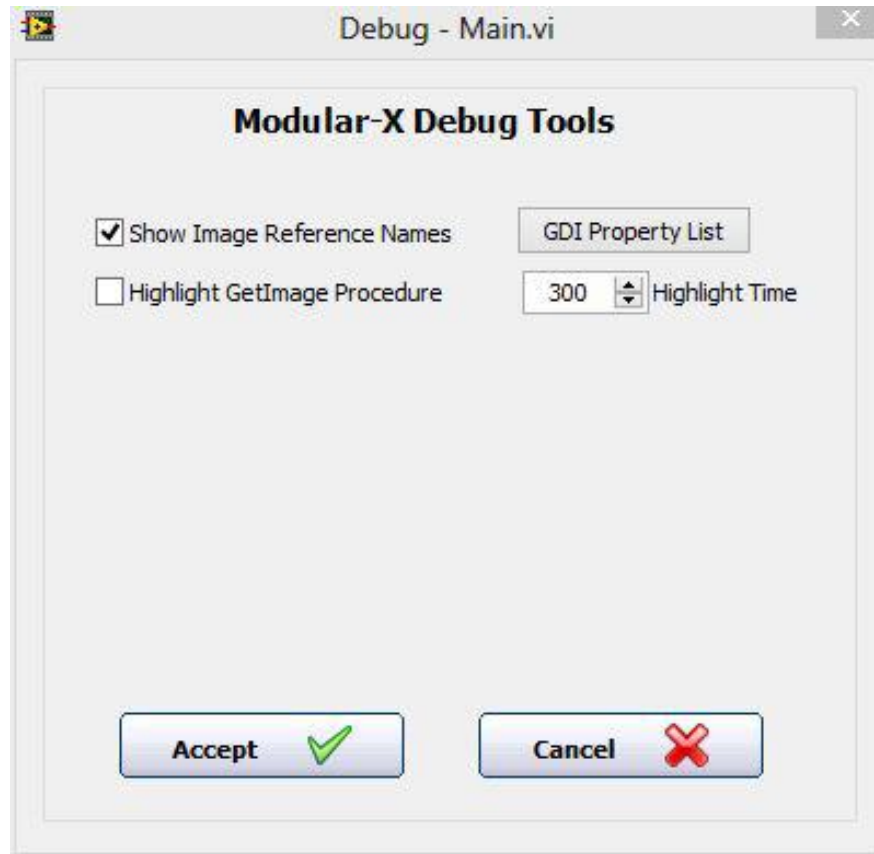

Figure 11. Debug Mode debug tools.
- Under the Session Tree menu a new option “Debug Tools” becomes available. The following configurations can be accessed [Figure 11]: